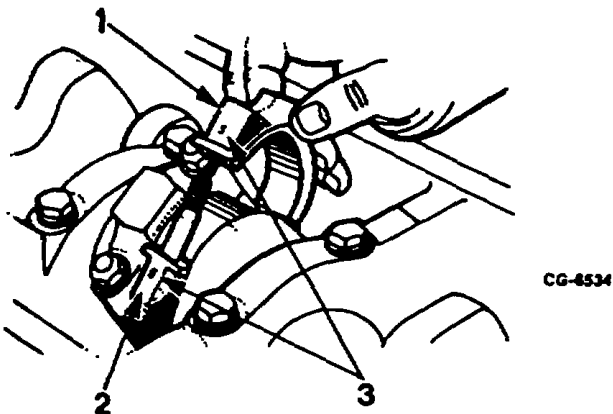

Figure 66. Removing Connecting Rod Cap
5. Remove each connecting rod bearing cap and push connecting rod and piston assembly from the cylinder bore (Figures 66 and 67). Replace cap and bearing inserts on rod so that identification numbers match.